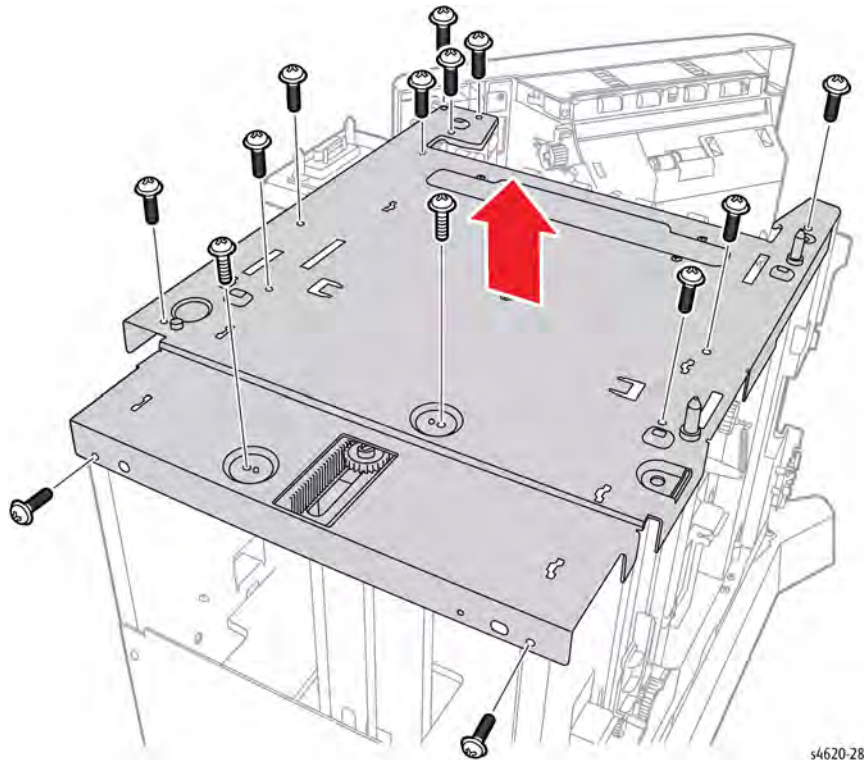

Figure 3 Removing the top plate
11. Remove 12 (metal) and 2 (plastic) screws that secure the top plate, Figure 3.